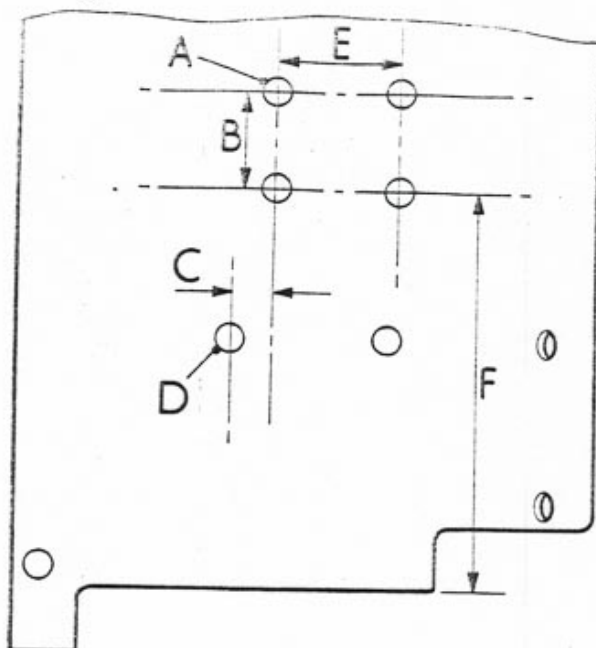

Fig.4. R.H. Baffle plate, drilling details.
- 10 Mark off the R.H. baffle plate, as illustrated in Fig.4, and drill four holes 0.281 in (7,1 mm) diameter for the cooler bracket fixings.